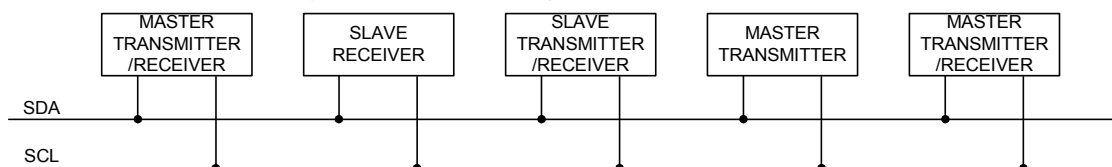
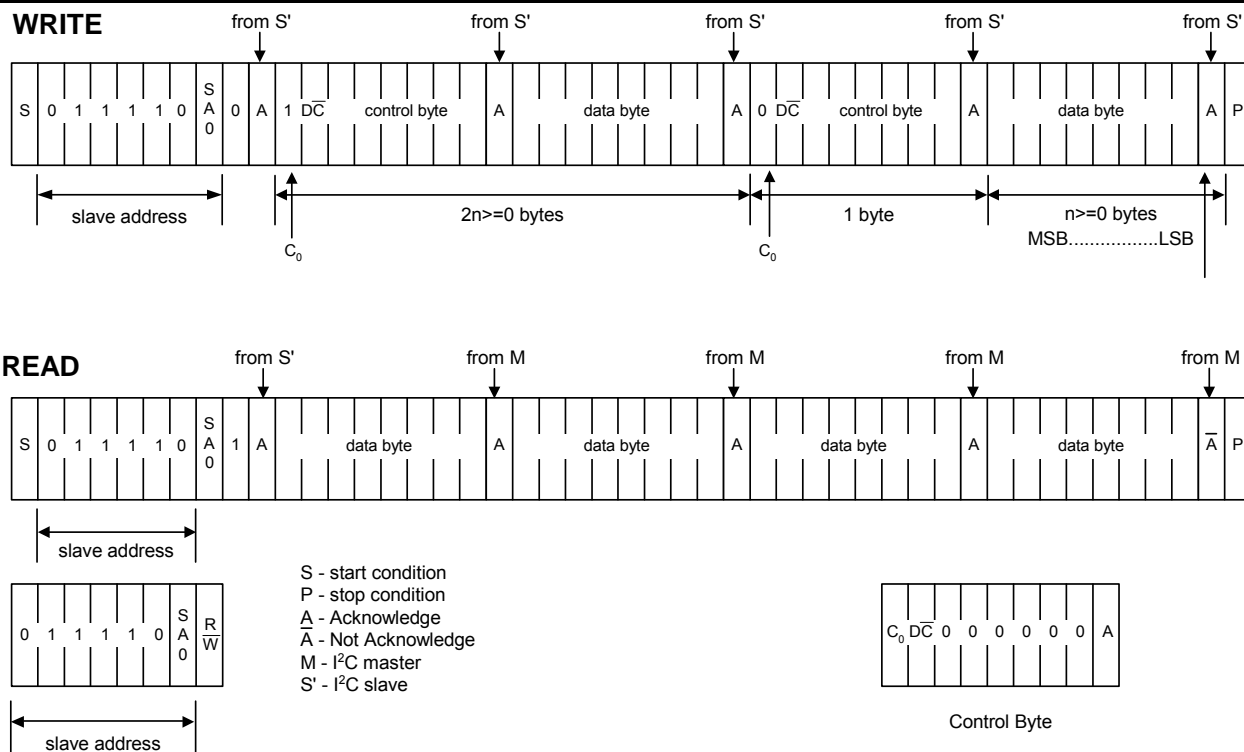

Figure. 7 System configuration
Figure 9 I2C Protocol
The SH1122 supports both read and write access. The  $R/\bar{W}$  bit is part of the slave address. Before any data is transmitted on the I2C-bus, the device that should respond is addressed first. Two 7-bit slave addresses (0111100 and 0111101) are reserved for the SH1122. The least significant bit of the slave address is set by connecting the input SA0 to either logic 0(VSS) or 1 (VDD1). The I2C-bus protocol is illustrated in Fig.9. The sequence is initiated with a START condition (S) from the I2C-bus master that is followed by the slave address. All slaves with the corresponding address acknowledge in parallel, all the others will ignore the I2C-bus transfer. After acknowledgement, one or more command words follow which define the status of the addressed slaves. A command word consists of a control byte, which defines Co and  $D/\bar{C}$  (note1), plus a data byte (see Fig.7). The last control byte is tagged with a cleared most significant bit, the continuation bit Co. After a control byte with a cleared Co-bit, only data bytes will follow. The state of the  $D/\bar{C}$ -bit defines whether the data-byte is interpreted as a command or as RAM-data. The control and data bytes are also acknowledged by all addressed slaves on the bus. After the last control byte, depending on the  $D/\bar{C}$  bit setting, either a series of display data bytes or command data bytes may follow. If the  $D/\bar{C}$  bit was set to '1', these display bytes are stored in the display RAM at the address specified by the data pointer. The data pointer is automatically updated and the data is directed to the intended SH1122 device. If the  $D/\bar{C}$  bit of the last control byte was set to '0', these command bytes will be decoded and the setting of the device will be changed according to the received commands. The acknowledgement after each byte is made only by the addressed slave. At the end of the transmission the I2C-bus master issues a stop condition (P). If the  $R/\bar{W}$  bit is set to one in the slave-address, the chip will output data immediately after the slave-address according to the  $D/\bar{C}$  bit, which was sent during the last write access. If no acknowledge is generated by the master after a byte, the driver stops transferring data to the master.